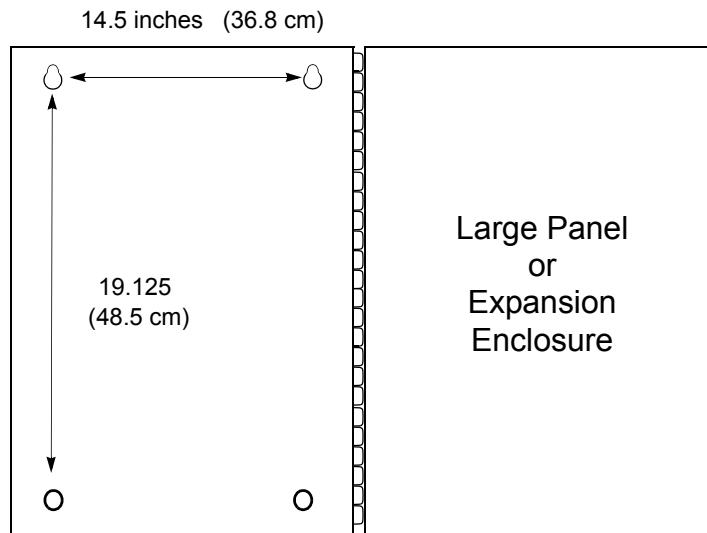
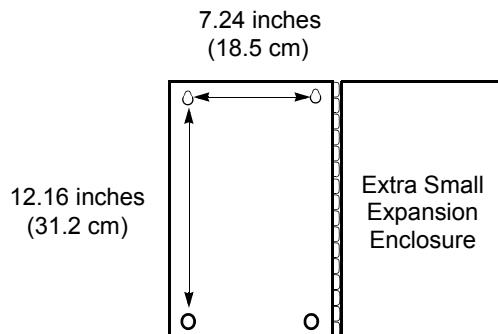

Figure 3-5: Mounting the Panels: S300-XL
Figure 3-7: Mounting the Panels: S300-XXS
- S300 expansion enclosures are mounted using the four mounting holes shown in Figure 3-5 through Figure 3-7.